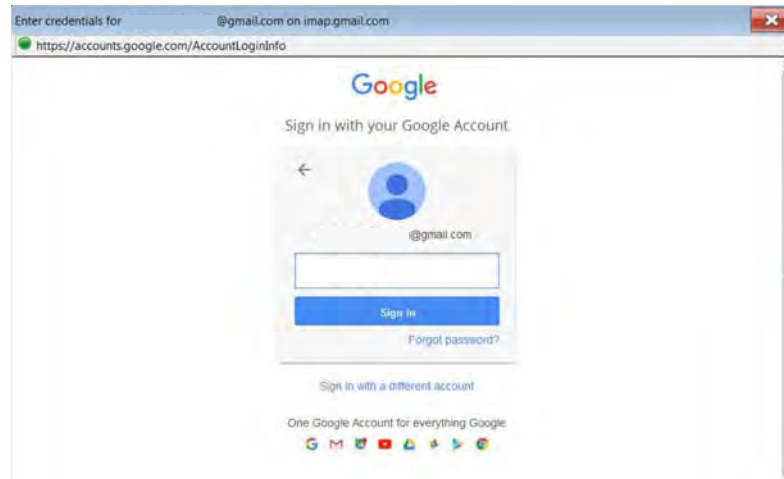

Figure 12-14
6. If your existing email provider login screen displays, enter your email address and password to allow the client to continue the setup with your provider (Figure 12-14).